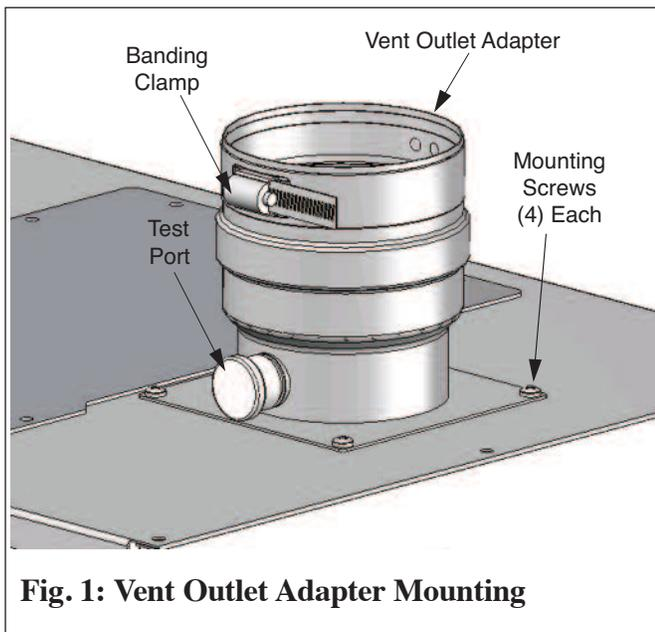

Fig. 1: Vent Outlet Adapter Mounting
5. Remove and save the (4) mounting screws from the vent outlet adapter from the top jacket panel, see Figure 1.